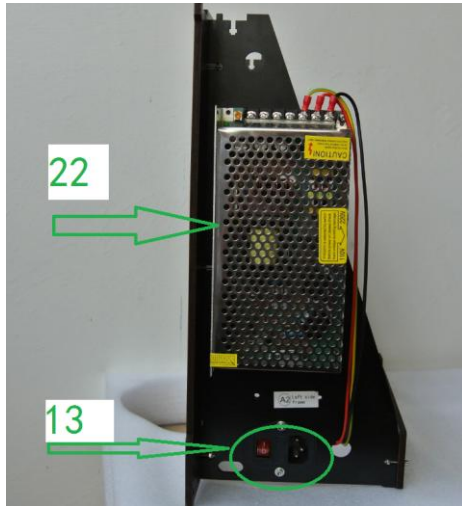
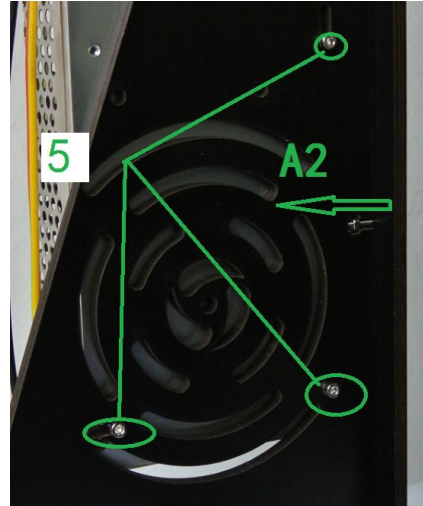
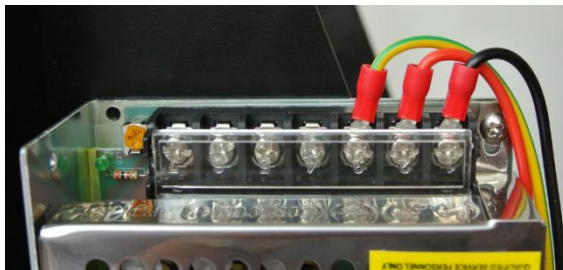
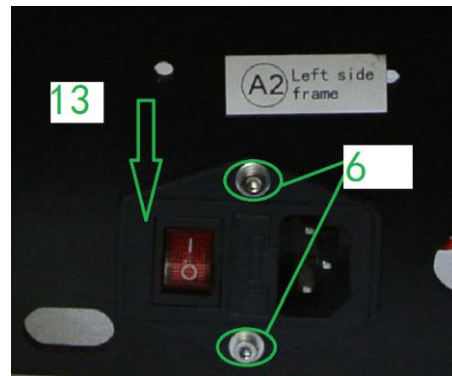

Figure 7.1 A2 Assembly
Figure 7.2 Motherboard on the Back and Tightening Screws
Figure 7.3 Connection of Power Source Socket and Motherboard Cables
Figure 7.4 Power Source Socket and Tightening Screw
The installation of A2 assembly is shown in Figure 7.1. As instructed in figure 7.2, fix the motherboard ②⑪ onto the A2 board on the right side of main framework with 3 pieces of ⑤ screw. Then follow figure 7.4 to fix power source socket onto A2 board with screw ⑥, nut ④ and washer ③. The connected power source socket and motherboard cables are shown in figure 7.3.